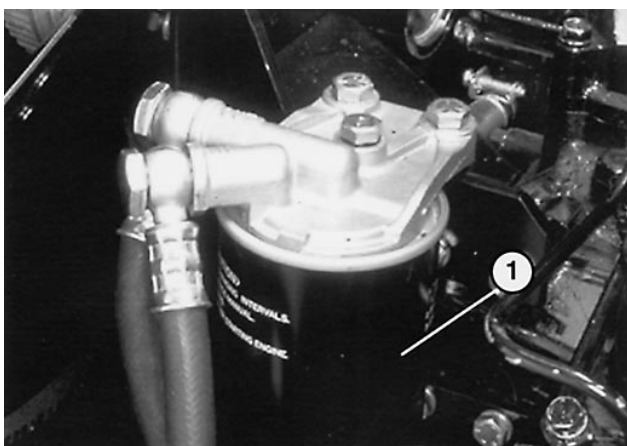

Figure 38
3. Every 1,000 hours operation, or yearly, replace the engine fuel filter (Fig. 38)—left front side of engine—and drain water from the fuel tank. Apply clean fuel oil to the filter O-ring. Use hands only to install and tighten the filter.